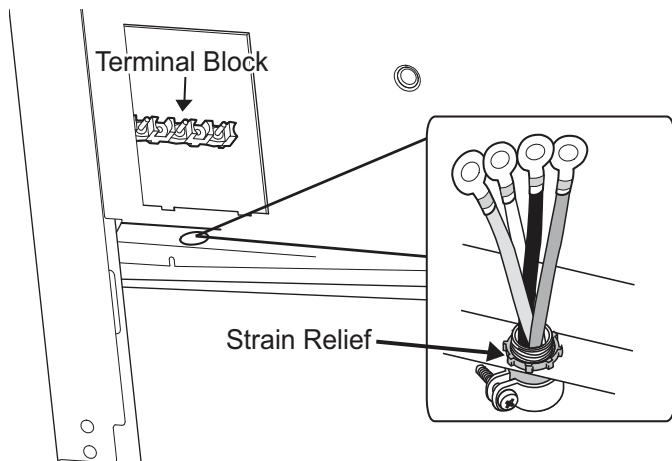

Figure 17: Strain Relief Location
Locate the terminal block on the rear of the unit and remove cover (refer to *Figure 17*). The conduit must be installed to the terminal block using an approved conduit connector. The free end of the conduit must be connected to a terminal block provided in the electrical supply zone, as shown in *Figure 5 on page 11*.
Mount a strain relief (not provided) into the 1" (25.4 mm) diameter hole located below the terminal block (see *Figure 17*). Wiring for the unit is to be brought into the terminal block through the conduit and through the strain relief. The ends of the wiring must have 1/4" (6 mm) faston closed-loop lugs attached, preferably soldered in place. Make the connections to the terminal block provided.
1. Locate the terminal block on the rear of the unit and remove cover (see *Figure 17*).